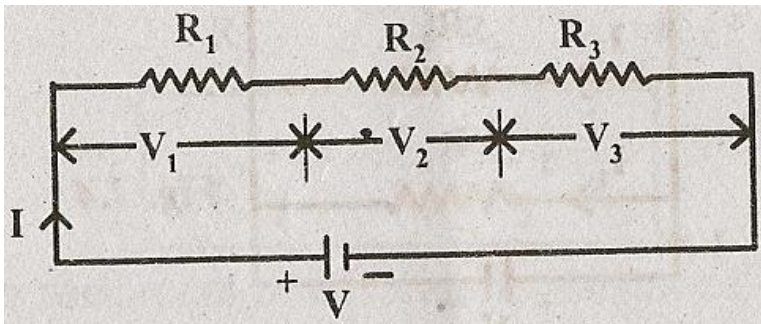

Fig.1.3
In fig.1.3 three resistors R_1 , R_2 , R_3 are connected in series. So the current (I) flowing through each resistor is same. But the voltage drop across each resistor is different due to its different resistance value. The total voltage in this circuit is 'V'